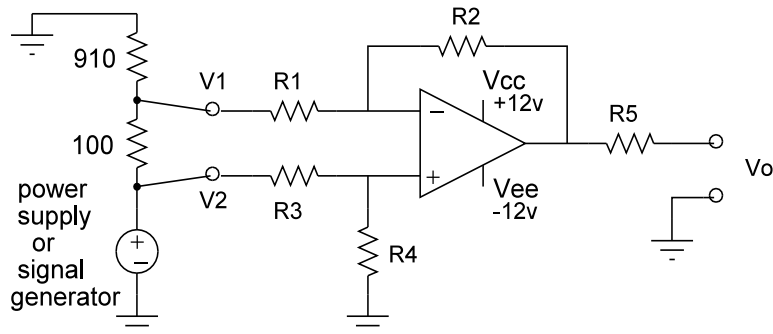

Figure 2
- 2) To make it easier to create a small voltage figure 2 shows using a 10:1 voltage divider to reduce magnitude of a voltage signal coming from a power supply (DC) or signal generator (AC) by a factor of 10 (or 20 db).